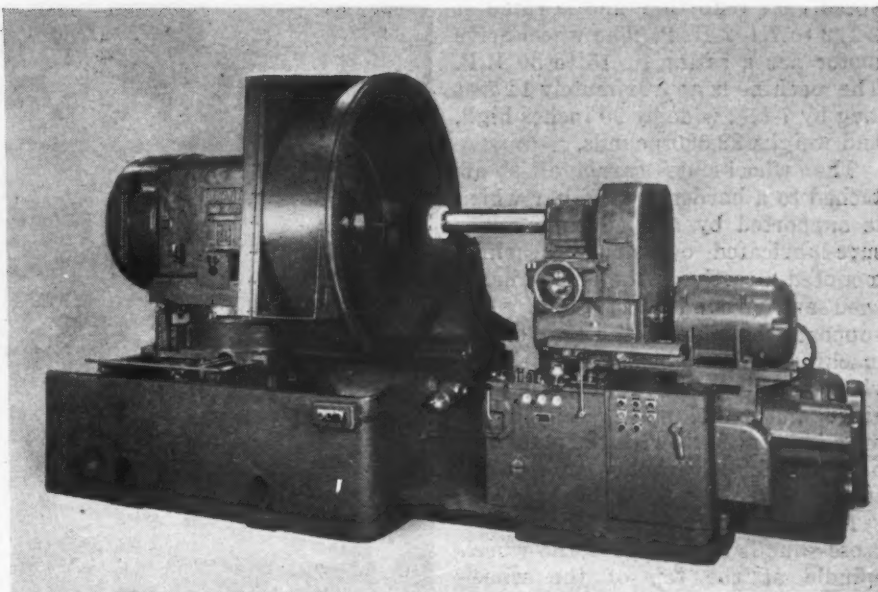
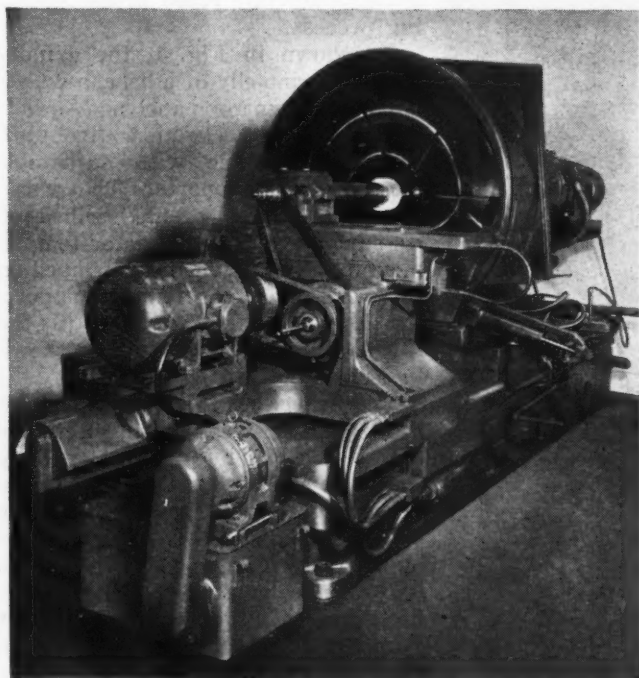
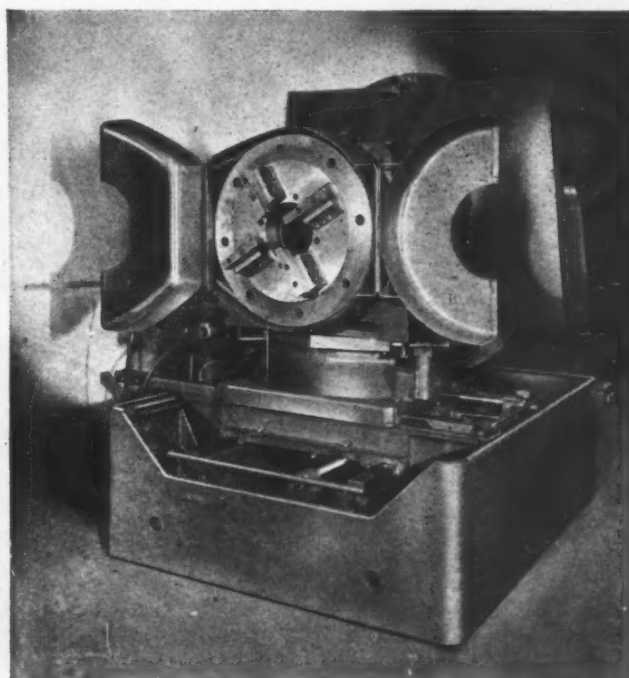

Fig. 1. Large-swing Internal Grinder Built by Bryant Chucking Grinder Co.
Fig. 2. Rear View from Right-hand End of Grinder Shown in Fig. 1
Fig. 3. Bryant Internal Grinder as Viewed from the Left-hand End
Fig. 2. (Left) Hexagon Turret of Hydratrol Lathe with Automatic Feed Regulator and Automatically Positioned Longitudinal and Cross-feed Stops. Fig. 3. (Right) Close-up View of Drive for Automatic Feed Regulator with Longitudinal and Cross-feed Stops Used on the Hexagonal Turret Lathe Shown in Fig. 1
Indexing the turret of this lathe accomplishes four things: (1) It brings a new turret face into the work area; (2) it indexes a set of front and rear cross-slide positioning stops shown at A, Figs. 1 and 2; (3) it indexes a set of longitudinal stops that can be used either for positioning a cross-feed cut or as a precision longitudinal-feed stop (shown at B, Fig. 1) operating a magnetic brake on the feed-rod drive through the action of the Micro limit switches shown at C, Fig. 3; (4) it automatically regulates the rate of feed by means of the six-position, rotary cam shown at D, Fig. 3. The feed-regulating cams for each turret face are independently adjusted through a wide range by screws E.
Grinder Co., Springfield, Vt. A general view of the front of this new grinder is shown in Fig. 1, while Fig. 2 shows a rear view of the machine from the right-hand end, and Fig. 3 a view of the machine from the left-hand end.